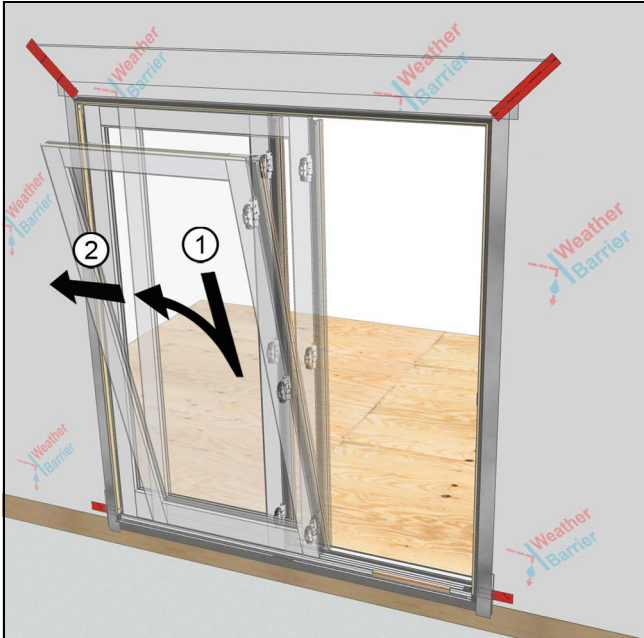

Figure 13
1. Stationary panel is installed first by tipping panel in over the sill retainer and then sliding over and engaging the panel bracket into the sill retainer and jamb retainers. See Figure 13.